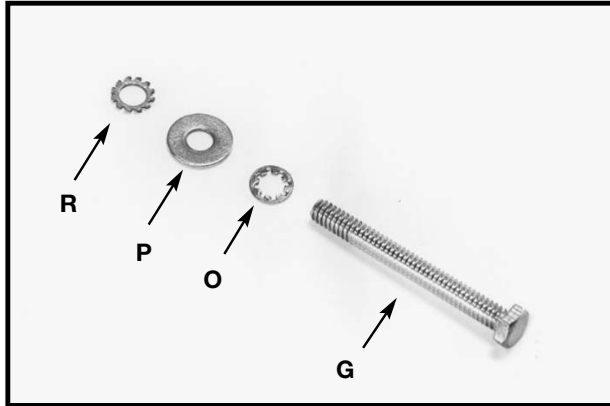

Fig. 18
3. Locate the 1/4-20x2" hex head screw (G) Fig. 18. Place the 1/4" internal tooth lockwasher (O) M6.4 flat washer (P) and the 1/4" external tooth lockwasher (R) on the screw (G).